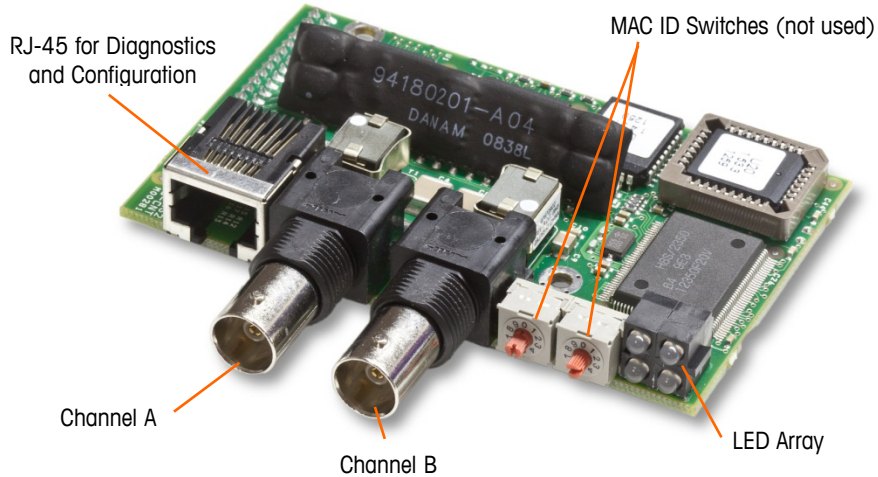
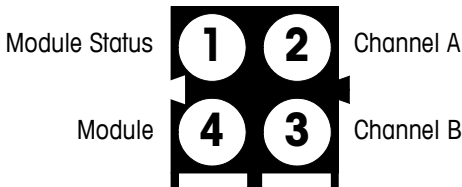
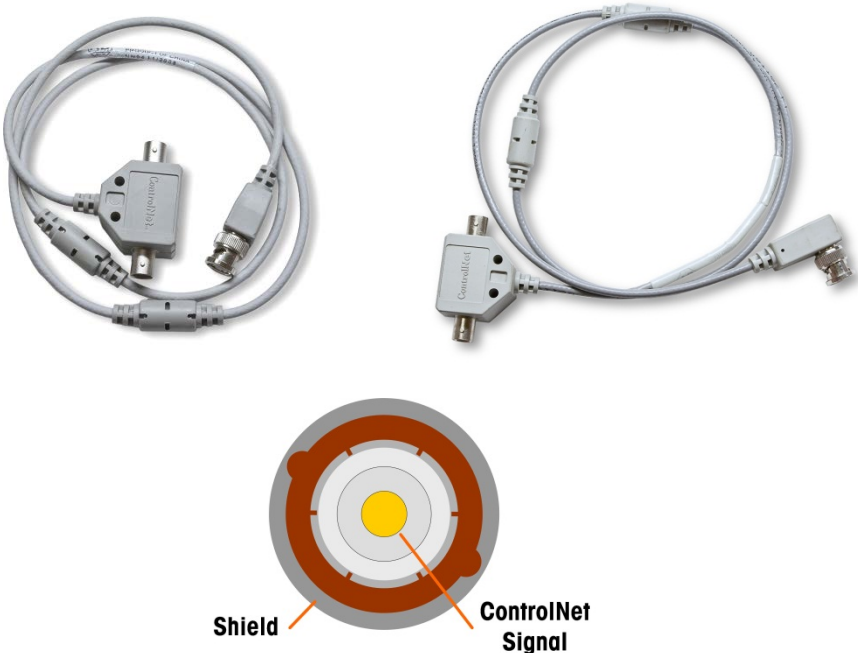

Figure A-93: ControlNet PLC Module Connections and Components
Figure A-94: ControlNet Status Indicator LEDs
Figure A-95: ControlNet Cables and Connector
The ControlNet PLC Module (Figure A-93) connects to the ControlNet network via one or two coaxial cables (Figure A-95). Channel B is redundant with Channel A, and is not used unless ControlNet detects no signal on Channel A. Note that the module's address is set in software, and the MAC ID switches indicated in Figure A-93 are not used.
- Do not plug an Ethernet cable into the RJ-45 connector shown at left in Figure A-93. Damage to the IND780 may result.
Figure A-94 shows the array of status indicator LEDs on the ControlNet card (see also Figure A-93).
Figure A-95 shows an example of a ControlNet cable, and a close-up view of the connector. Note that the connector may be right-angled or straight. This cable is not supplied by METTLER TOLEDO.